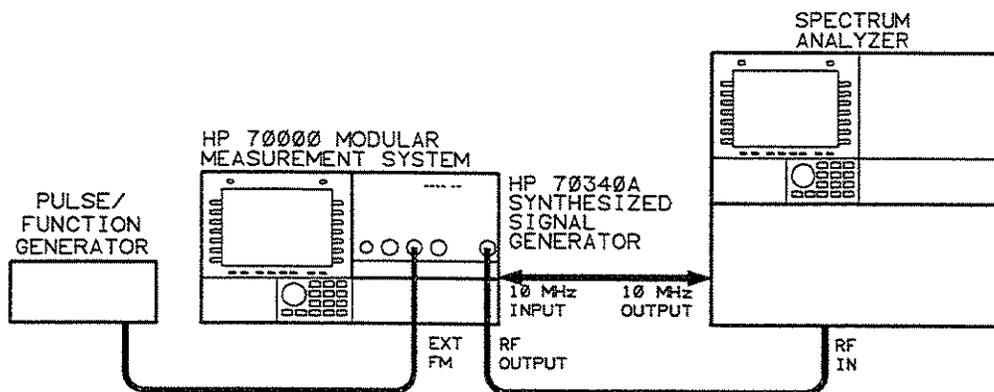

Figure 1-18. Maximum FM Deviation Test Setup
1. Connect the equipment as shown in Figure 1-18.